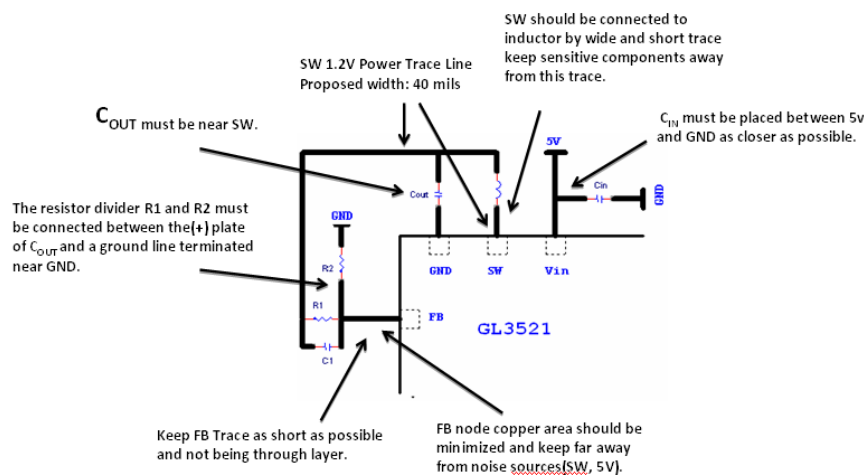

Figure 2.20
1. The layout trace diagram of 1.2V power is described as **Fig. 2.20**. The width of SW 1.2V power trace line is recommended to be 40 mils. The trace of FB is recommended to be as short as possible, and not to be routed through the layer of EMI protection. Please also refer to Section 3.4 Power Source for more information. The resistor divider R1 and R2 must be connected between the (+) plate of  $C_{OUT}$  and a ground line terminated near GND. The SW should be connected to inductor by wide and short trace, and keep sensitive components away from this trace. There is large current passing through the pin 88 GND of GL3521. This pin has to be connected with the ground of  $C_{IN}$  and  $C_{OUT}$ , and the trace has to be wide. Increase the amount of via holes at the ground of pin 88. Increase via holes at the ground of  $C_{IN}$  and  $C_{OUT}$ .